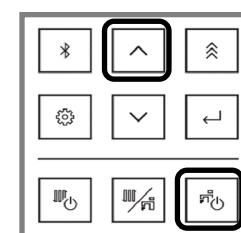

Fig 9. "Up" and "DHW" Buttons
- Press and hold the "DHW" button for two seconds and then the **▲** (Up) button simultaneously (Fig 9).